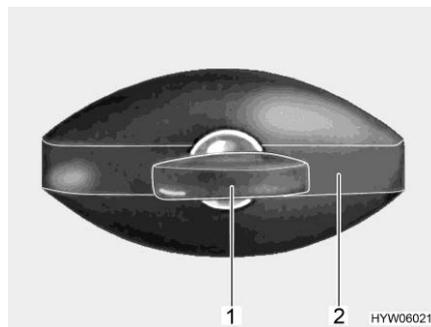

Fig. 74 Flap lock (elliptical-shaped, closed)
- Insert key into locking cylinder (Fig. 74,1) and turn a quarter turn in an anticlockwise direction. The lock handle (Fig. 74,2) snaps out.